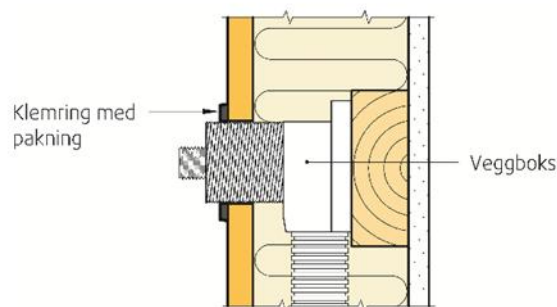

Figure 2
- Sanipex manchettes are mounted with sealant for Waterproofing around wall boxes. Sealant should only be applied to the bathroom panel and not on the pipe, see Fig. 2